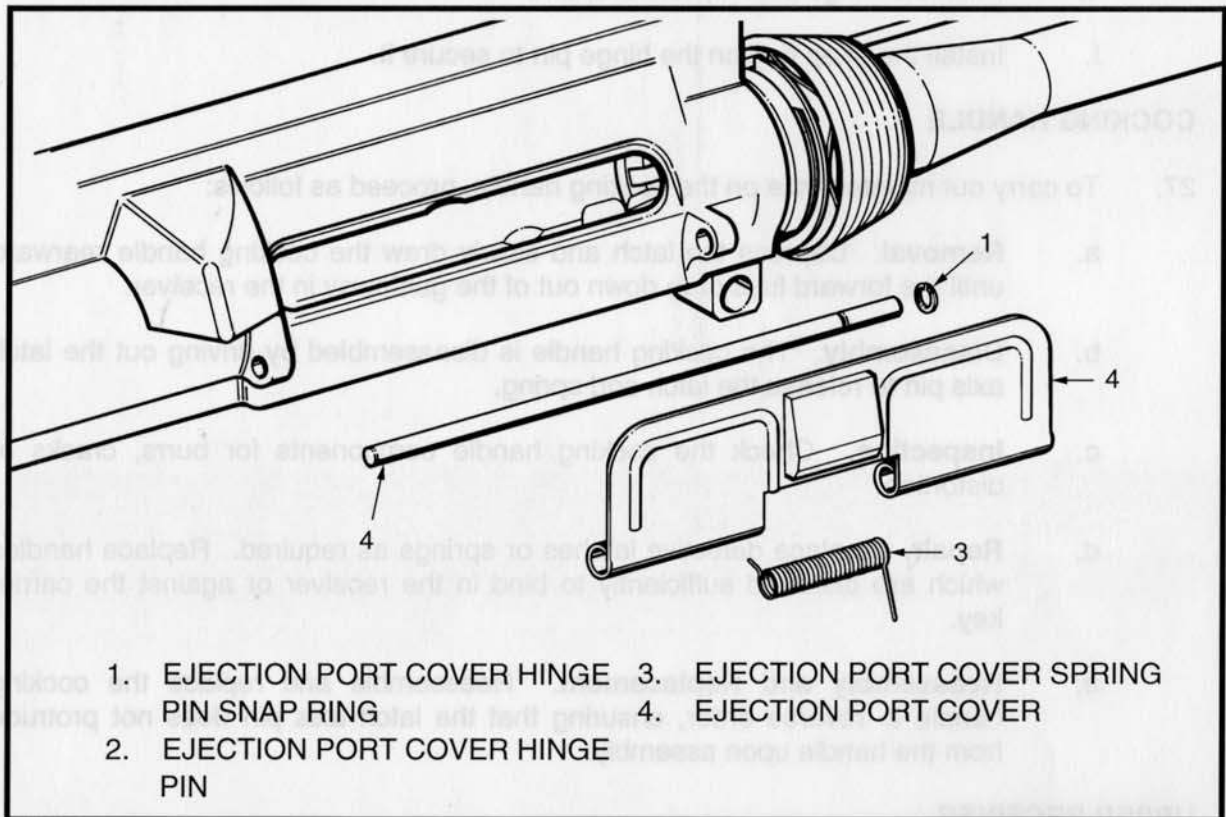

Figure 3-2-28 Removing the Ejection Port Cover
24. **Disassembly.** To disassemble the ejection port cover from the upper receiver, see Figure 3-2-28 and proceed as follows:
- a. Using the tips of two small punches or flat tip screwdrivers remove the ejection port cover hinge pin snap ring (1) from the ejection port cover hinge pin (2);
- b. Take control of the ejection port cover (4) and ejection port cover spring (3) to prevent their loss;